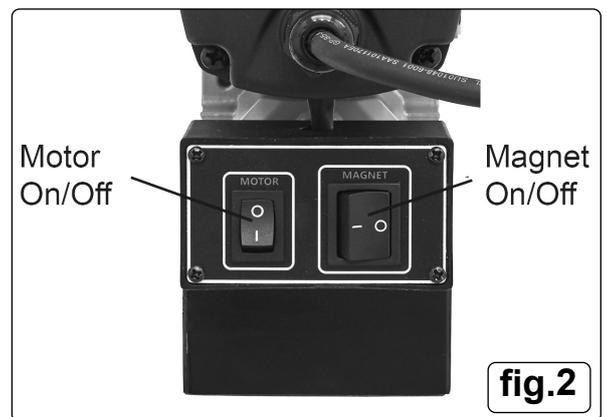

fig.2
5.3.1. Turn the magnet on (fig.2). Wind the drill head down to the workpiece and align the cutting head pin (not supplied).
5.6.1. Back the cutting head away from the workpiece, turn the drill motor on (fig.2). Check the drill sounds and is operating normally.